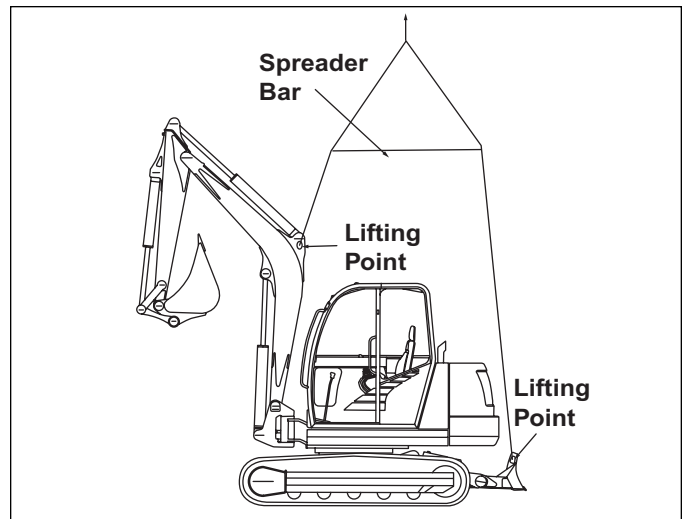

Figure 3-17. Machine Lifting Points
- Secure the lifting fixture sling to the lifting points on the machine (Figure 3-17).